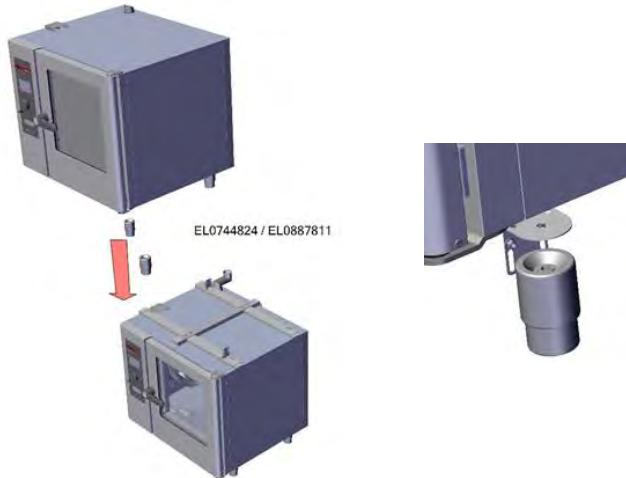

Fig. 54: Adjustable feet
10. Remove the round diagonal adjustable feet provided for securing from the top device (electric EL0744824/gas EL0887811) and fasten them to the device again with the top foot mount brackets (Fig. 54).